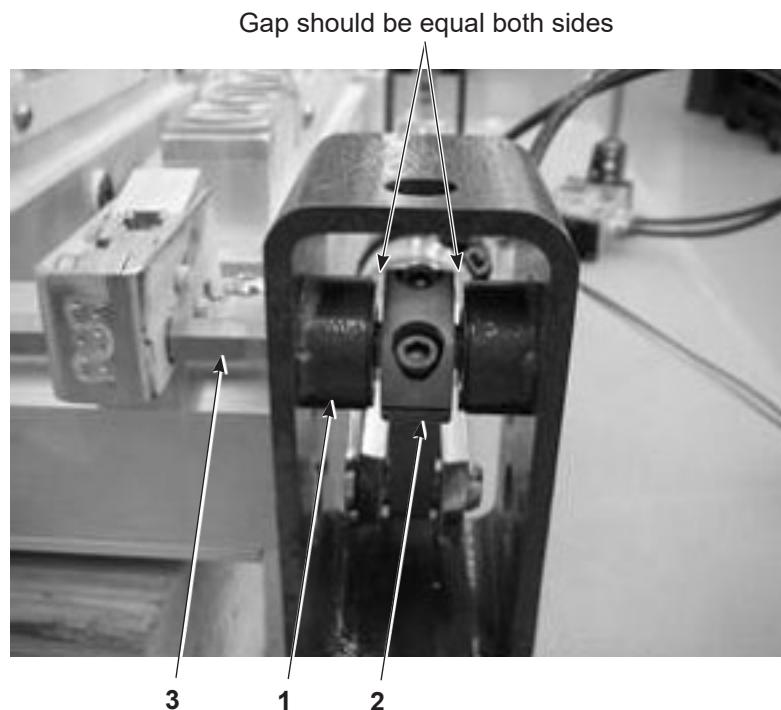

Figure 8-4 Lever Position – Step 4
4. See Figure 8-4. If all latches have been removed from the hex shaft, push or pull on the hex shaft (3) to center the lever (2) in the yoke (1) before you tighten the set screw to secure the latch to the hex shaft.